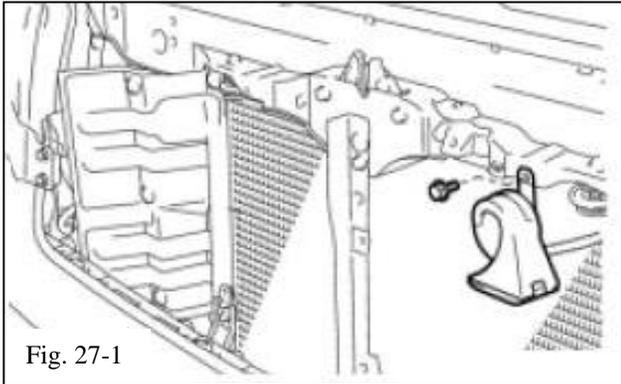

Fig. 27-1
- (1) Disconnect the low pitch horn connector.
- (2) Unbolt and remove the low pitch horn (Fig. 27-1).
- (3) Set the horn and bolt aside for reuse.